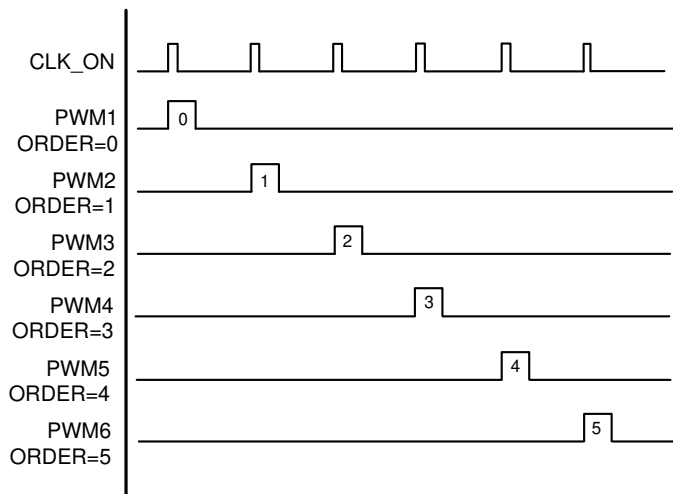
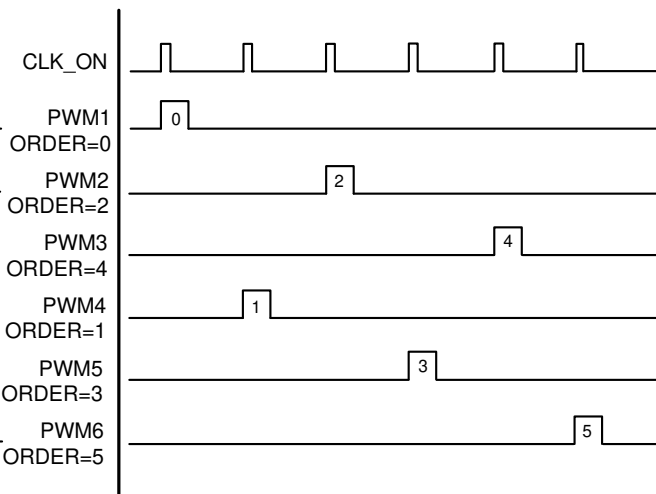

Figure 7-14. 0-1-2-3-4-5 fire order (6 phase example)
Figure 7-15. 0-2-4-1-3-5 fire order (6 phase example)
- **ORDER:** Controls the order in which phases are fired with respect to each other. Figure 7-14 and Figure 7-15 illustrate the effect of different ordering assignments. Reconfigure the phase ordering to ensure adjacent phases do not interfere with each other due to layout related coupling issues. If dynamic phase shedding is used, phases add or drop according to their assigned ORDER value.